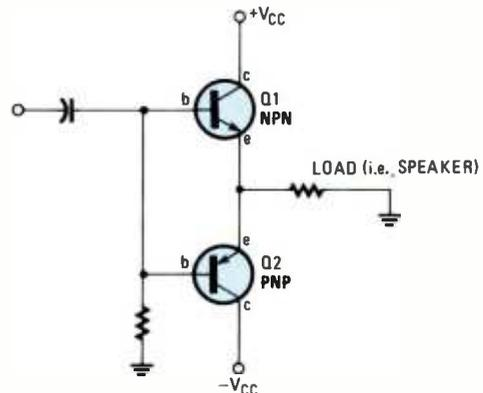

Fig. 23—A complementary-symmetry class B push-pull power amplifier can eliminate the output transformer.
57. (power) A more widely used transistor class B power amplifier is shown in Fig. 23. It uses no transformers: a major savings in size, weight, and cost. It is made up of both NPN (Q1) and PNP (Q2) transistors connected as emitter followers, with the load (a speaker, motor, etc.) acting as the emitter resistor. Such a circuit is called a *complementary-symmetry amplifier*. (PNP and NPN transistors are said to be complementary devices.) Note that two power supply voltages,  $+V_{cc}$  and  $-V_{cc}$ , are